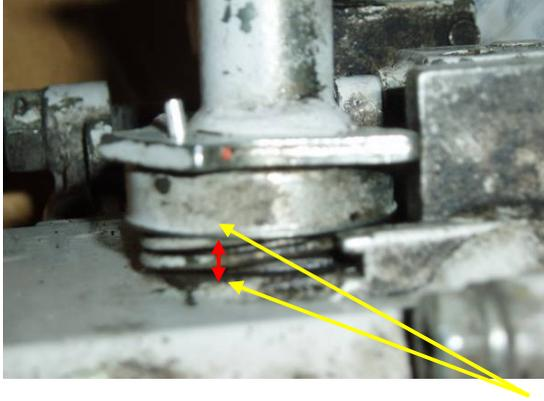

Figure 3 – end float in shutdown lever shaft. (2mm)
4. The 4lt shutdown float tank is hoses up to a vent valve that is mounted under the D/S engine cover rail that will start to leak air once the water level starts to drop prior to shutting down the engine. Figure 3.